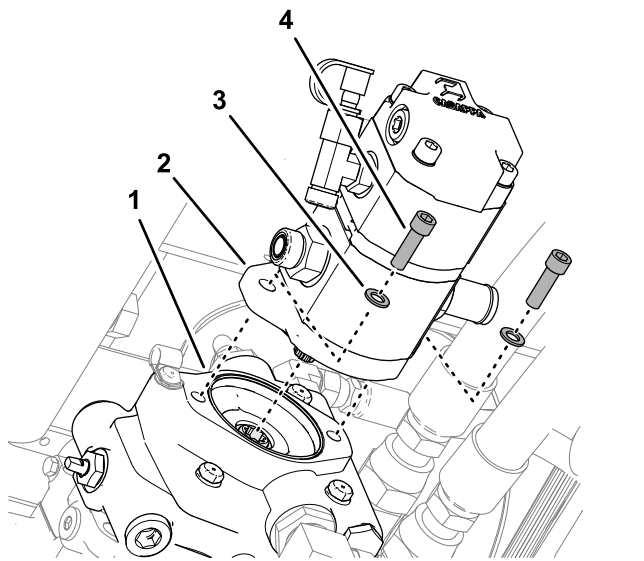

**Figure 104**
1. Disconnect the pressure hose for the spray-pump motor from the straight fitting in the left side of the hydraulic pump (Figure 104).